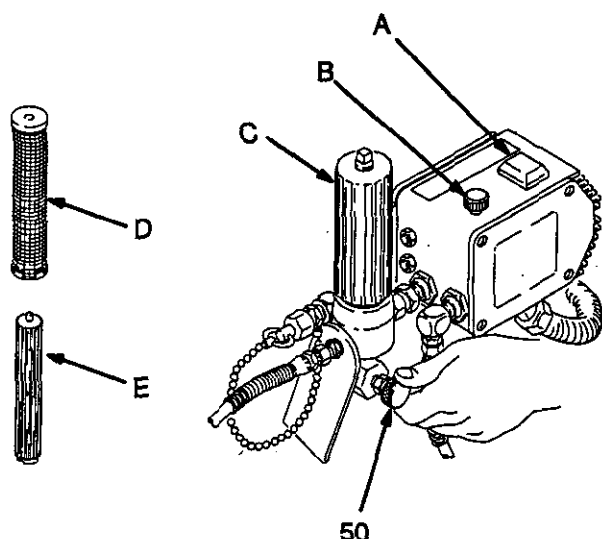

Fig. 10
2. If the sprayer has been used before, remove the filter bowl (C) and screen (D); see manual 307-273, supplied. Clean the screen (D) separately and install the bowl (C) and support (E) without the screen to flush it. See Fig. 10.
3. Close the pressure drain valve (50). See Fig. 10.